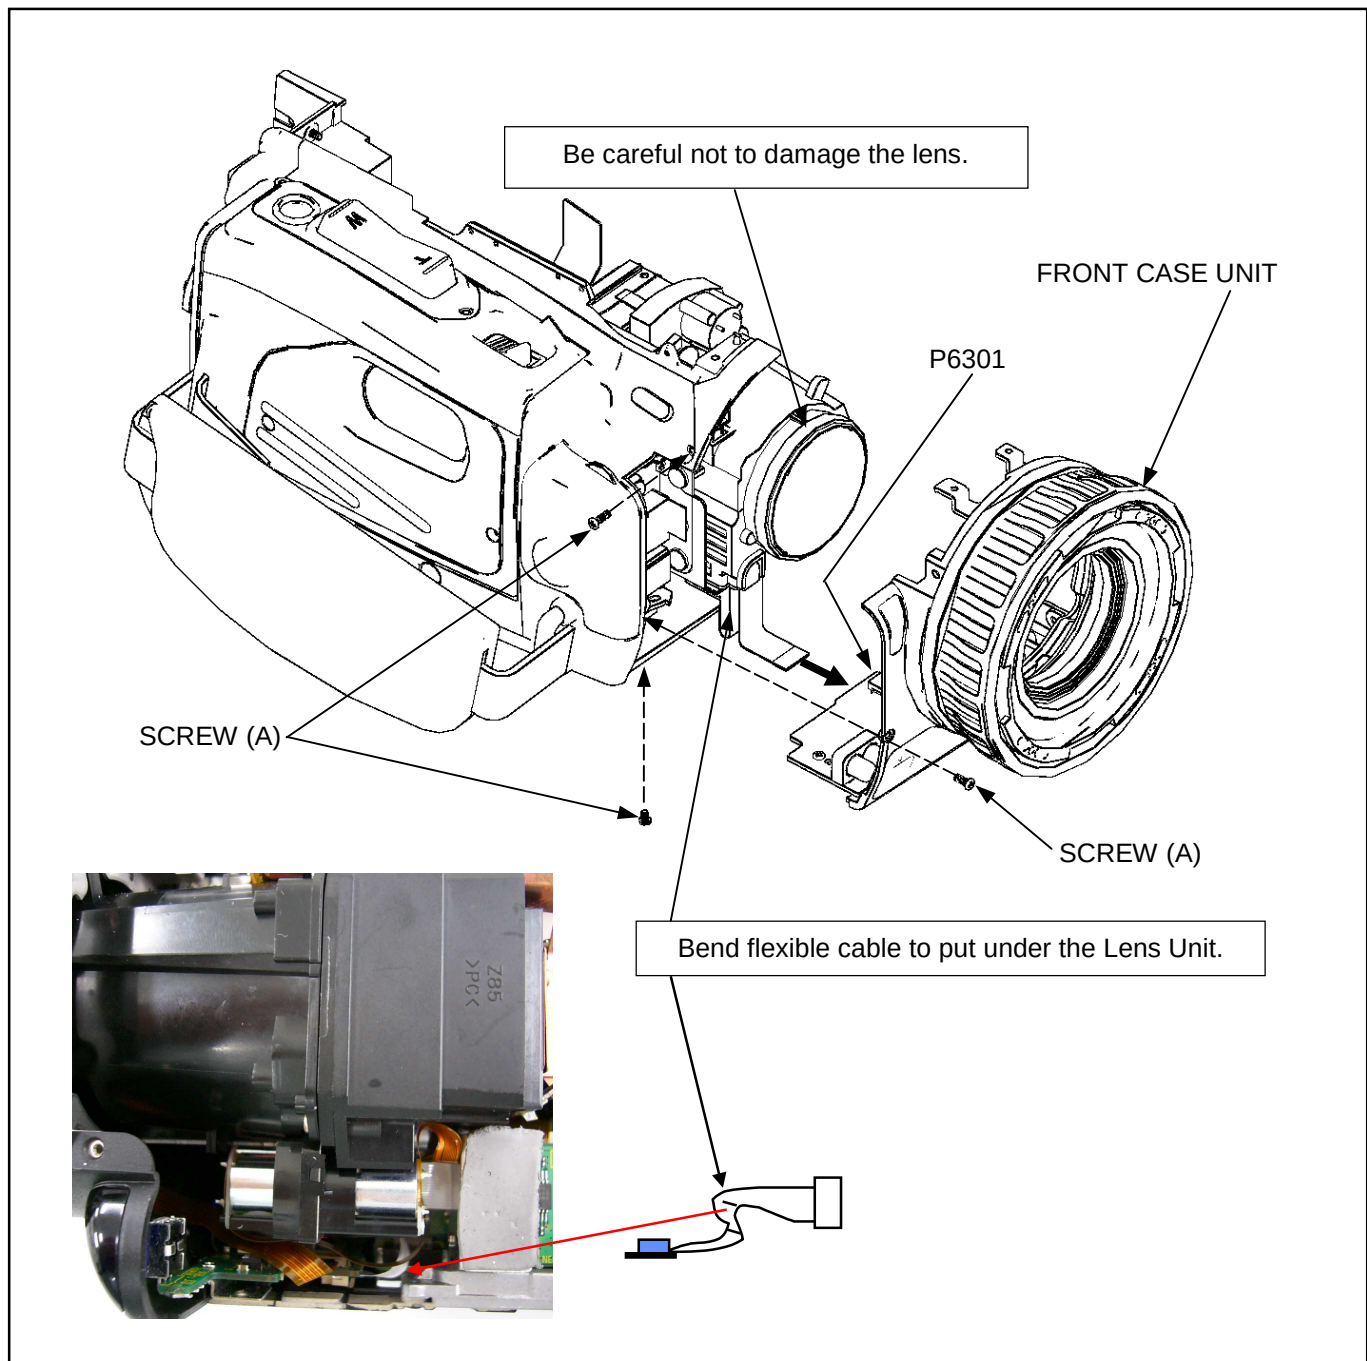

Figure 7-1
4. Unscrew the 3 screws (A) as shown in figure 7-1.
5. Disconnect a connector P6301 and remove the Front Case Unit as shown in figure 7-1.